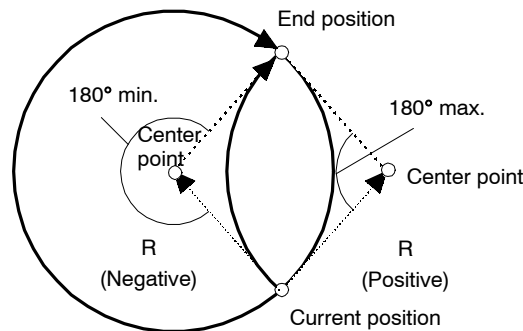

Figure 2.9 CLOCKWISE CIRCULAR INTERPOLATION (MCC)
- A circle can be designated by the radius value R of the circle, instead of by the center point position. The circular interpolation in this case will be as shown in *Figure 2.9*.